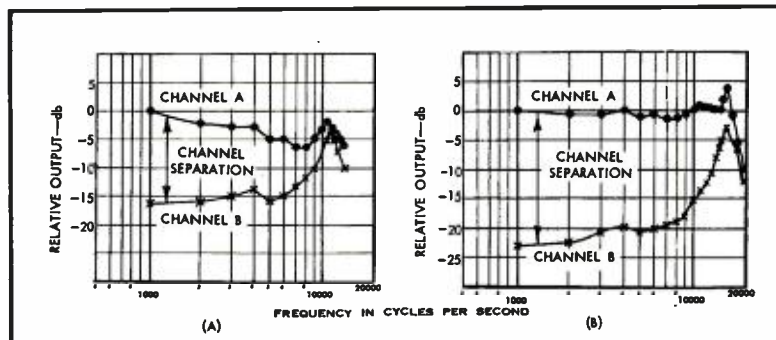

Fig. 7. Channel separation for typical variable-reluctance pickup (A), and for moving-magnet pickup described (B).
The effect of mass loading, operating in several degrees of freedom in mechanical resonance, is a major concern in stereo pickups because of its effect on channel separation. Figure 7 compares the channel separations of a typical high-mass system with that of an inherently low-inertia moving-magnet pickup. The high-mass system at (A) shows a high-frequency mechanical resonance in the order of 11,000 cps. This pickup is heavily damped to suppress audible amplitude effects of this resonance. Note the gradual loss of channel separation as we approach resonance with the complete loss at 12,000 cps and beyond in the high-mass system. The moving magnet system shown in (B) can retain adequate channel separation throughout the audible range. Obviously as resonance is approached, the generating element mode